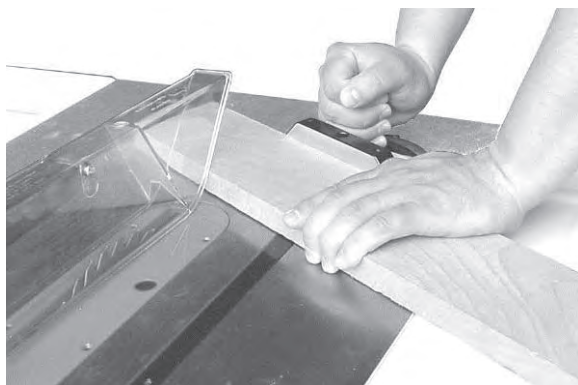

Figure 32
**Crosscut** – Crosscuts made at an angle to the edge of the workpiece are called miters (Figure 32). Set the miter gauge at the required angle, lock the miter gauge, and make the cut the same as a normal crosscut except the workpiece must be held extra firmly to prevent creeping.